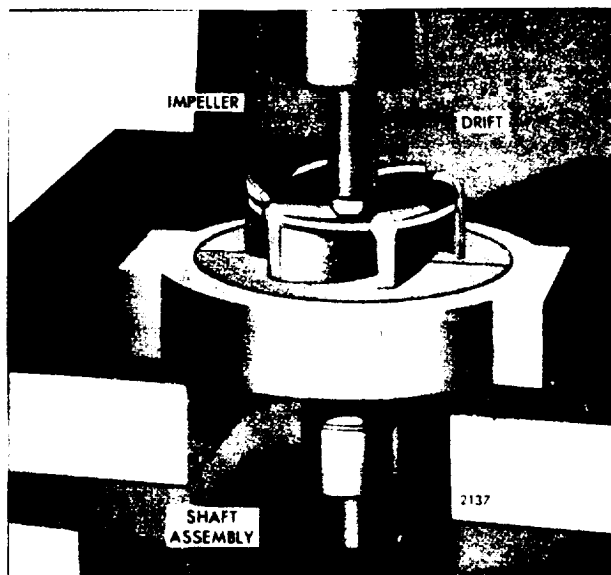

Fig. 4 - Removing Shaft from Impeller with Tools J 8329 and J 358-1
4. Press the end of the shaft out of the impeller as shown in Fig. 4, using plates J 8329 and holder J 358 1.